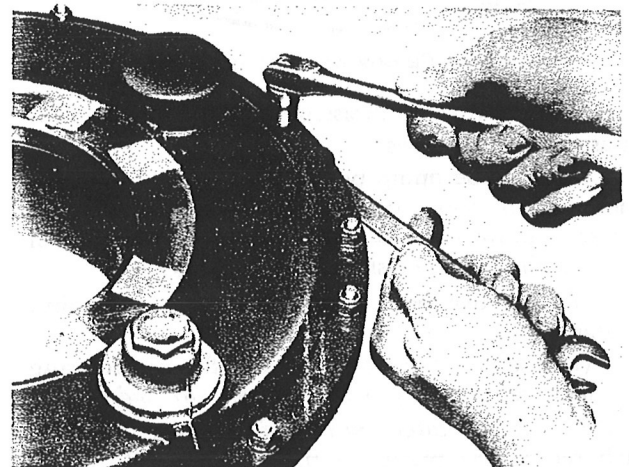

Figure 58—Removing Cover Bolts
(9) Remove the remaining cover bolts, nuts, and washers. (See figure 58.)